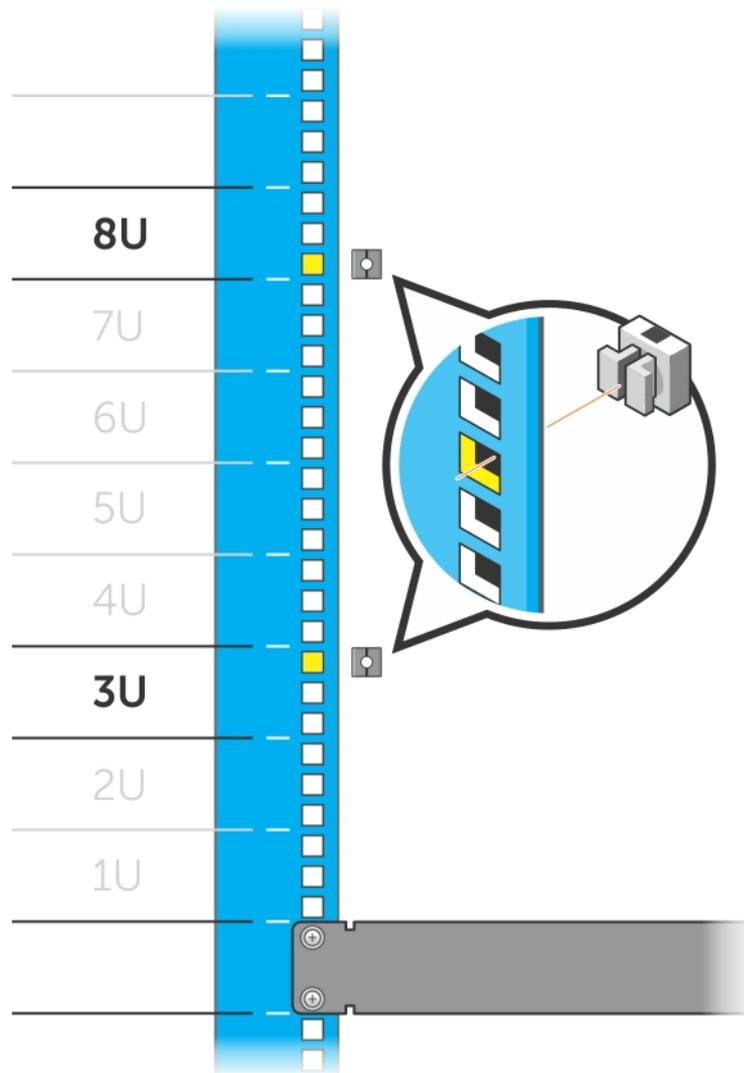

Figure 7. Installing Cage Nuts in a 4-Post Rack Before Mounting the Chassis
- On each post, install the lower cage nut in the top post hole 3 RUs above the rack bar; install the upper cage nut in the bottom post hole 5 RUs above the lower cage nut (8 RUs above the rack bar). See Figure 7.